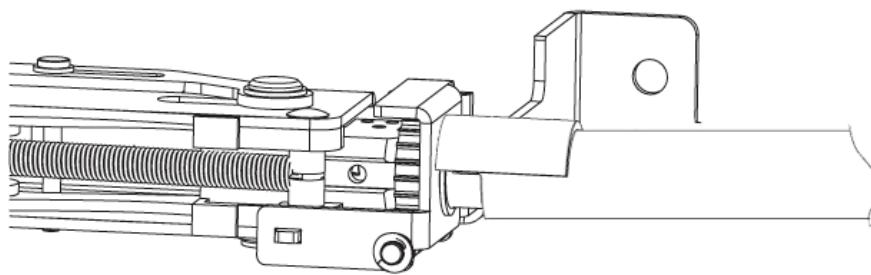

Figure 39
- To align the hex of rod with the hex of the LBC gear, fit the rod guide tab into the LBC gear slot. Once aligned, push the rod assembly in until fully seated. (Figure 39)